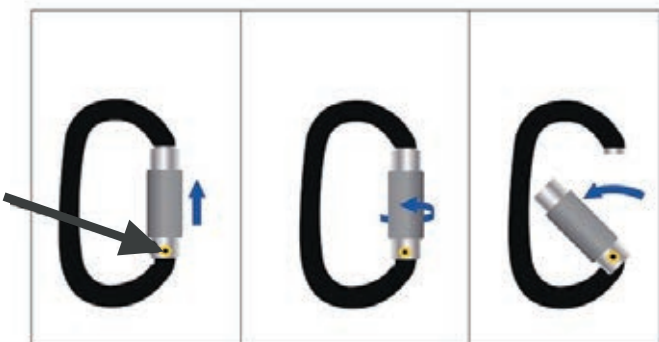

Fig. 3
3. To open the triple action carabiner, proceed as shown on the left. See Fig. 3.